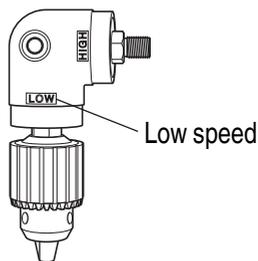

Fig. 9
- To operate the angle unit at low speed, attach the chuck to the angle unit spindle at the side marked “LOW” and secure the locking screw. At this setting, the drilling speed is decreased to about 70% and the drilling torque increased to about 150%. (Fig. 9)